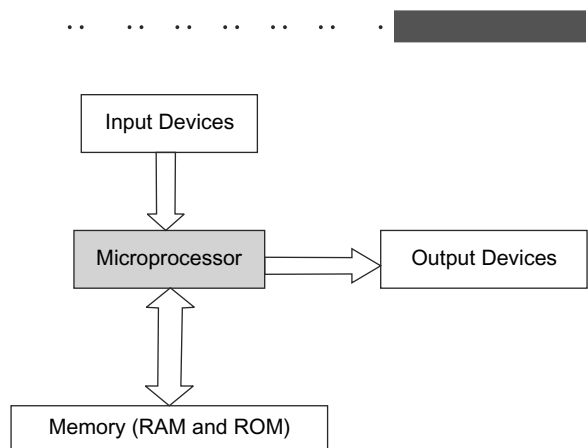
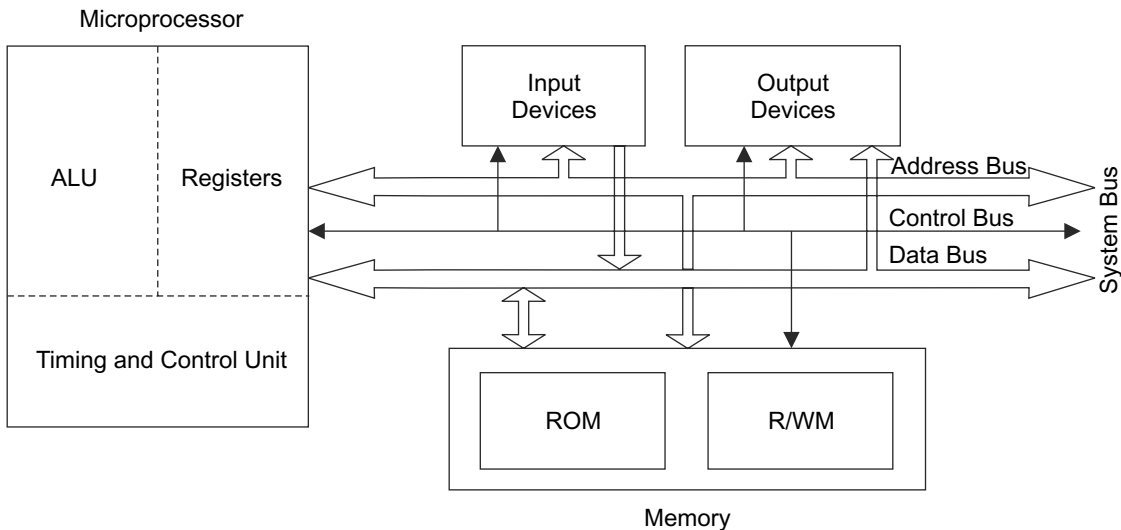

Fig. 1.10 Schematic block diagram of a microcomputer
Fig. 1.11 Architecture of a microcomputer
Generally, the words ‘microprocessor’ and ‘micro-computer’ are used to correspond to the same thing, but in fact these words have different meanings. The microprocessor is an Integrated Circuit (IC) developed on LSI or VLSI technology. It is the core of any computer system, but a microprocessor by itself is completely useless, until external peripheral devices are connected with it to enable it to interact with the outside world. The microcomputer is a complete computing system and it is built with a microprocessor, input/output devices and memory (RAM and ROM). The schematic block diagram of a microcomputer is shown in Fig. 1.10. The detailed architecture of a microcomputer is illustrated in Fig. 1.11.